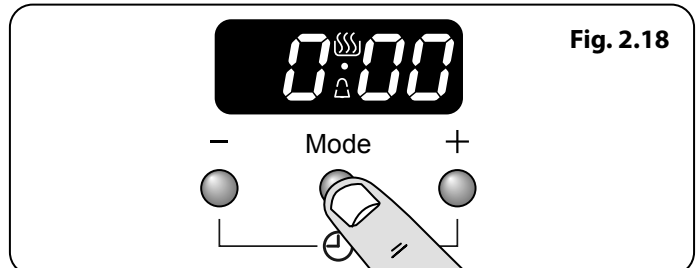
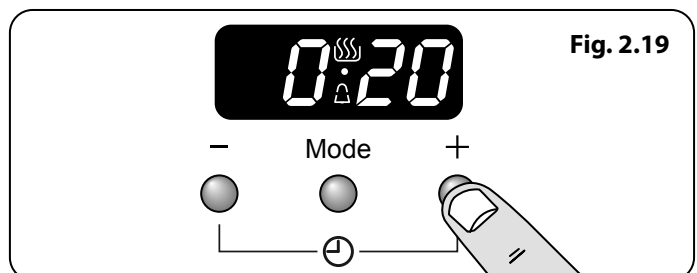

Fig. 2.18
Fig. 2.19
1. Press the mode [Mode] button once (Fig. 2.18). The bell symbol [🔔] will flash on the display. Select the desired countdown from 00.01h to 23.59h using the [+] or [-] buttons (Fig. 2.19). The countdown will automatically begin and the [🔔] symbol will show in the display.